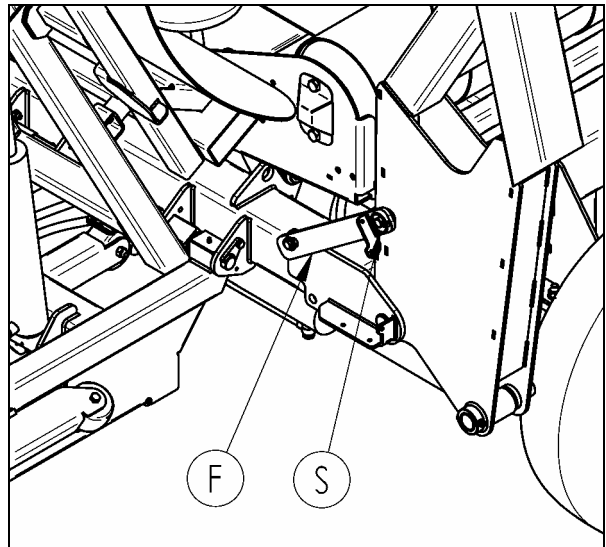

fig.5 – Safety bracket fork - transport
When on public roads, the machine must be unloaded, its loading fork must be up, the safety pin (P) inserted (fig.5, F) and locked through the plug (S).